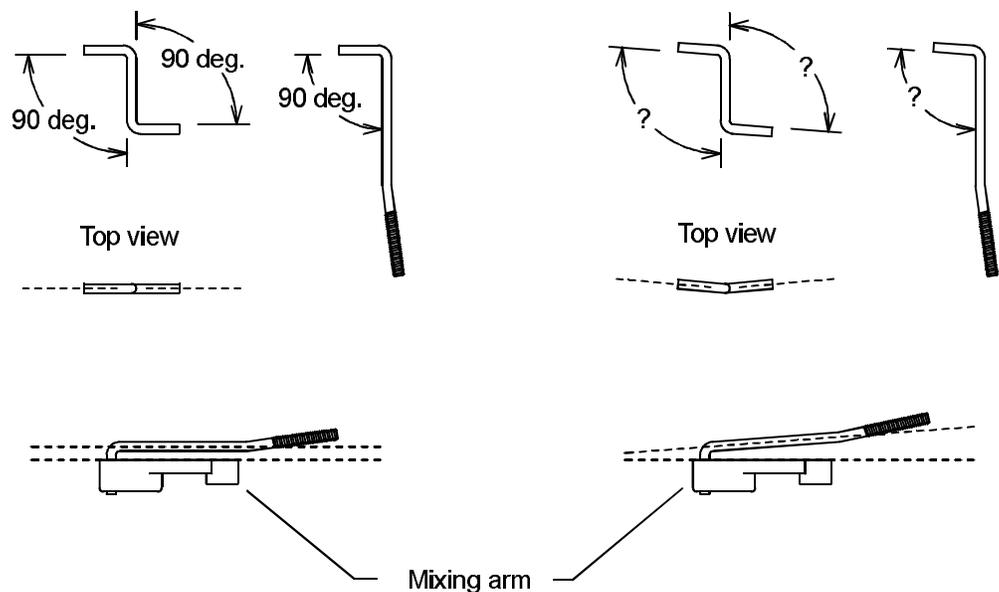

Figure 8-3.
- ❑ 7. The right-angle bends in the Z-links and mixing-arm/swashplate pushrods must measure exactly 90 degrees. Compare your Z-links links and mixing-arm/swashplate pushrods to Fig. 8-3 and bend them slightly with a pliers if necessary.